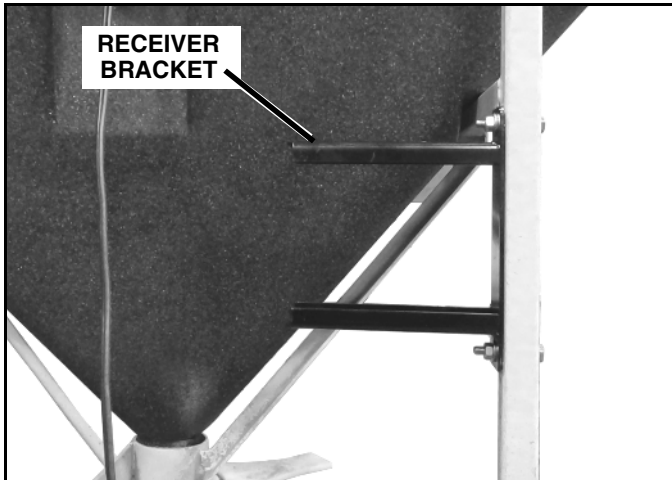

Figure 1-4
2. Remove the receiver bracket from the package and place it on the driver's side vertical tube of the spreader frame. The bracket should be located to the inside of the frame about midway along the tube. Make sure that both the spreader motor harness and vibrator harness can reach the receiver module (See Figure 1-4).
3. Using the bracket as a guide, mark and drill two 9/32" holes all the way thru the tube (If a 9/32" drill is not available use a 5/16"). Secure bracket to the spreader with (2) 1/4" X 1-3/4" hex head cap screws, (2) 1/4" flat washers and (2) 1/4" lock nuts (See Figure 1-4).